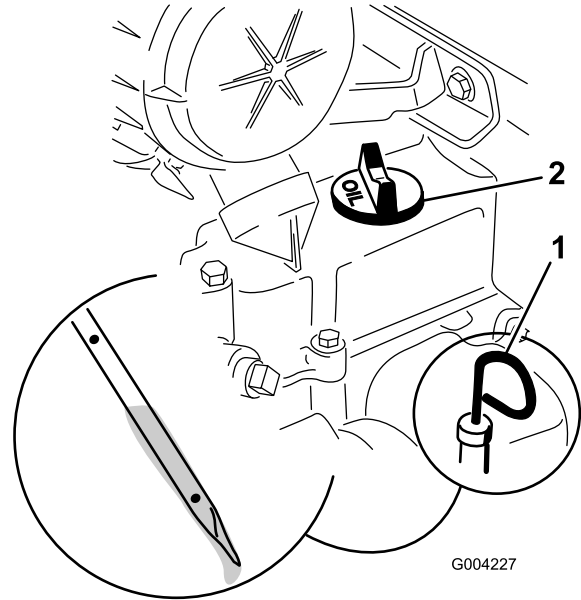

Figure 17
4. Clean around the oil dipstick (Figure 17).
5. Pull out the dipstick and wipe the metal end clean (Figure 17).
6. Slide the dipstick fully into the dipstick tube (Figure 17).
8. If the oil level is low (below the bottom hole), clean around the oil-filler cap and remove the cap (Figure 17).